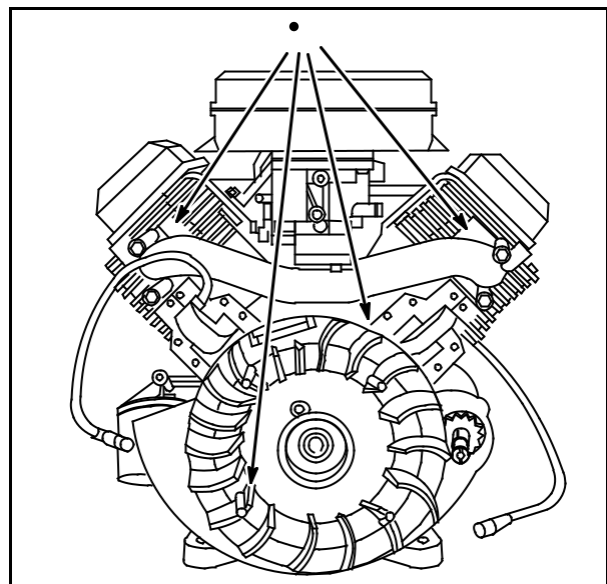

Fig. 25
Fig. 25 shows the blower housing removed and areas to be cleaned (1) on the Vanguard engine.